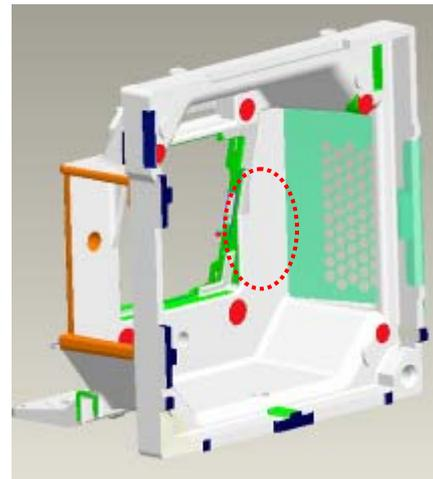
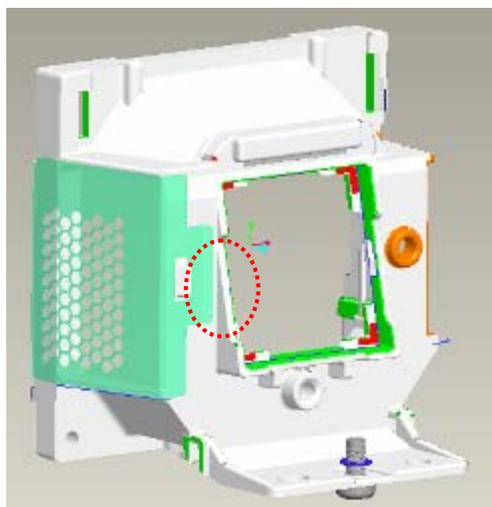

Fig. 1-2
Fig. 1-3
- II. Assemble “MESH” with Lamp holder .Mesh hooks HLD Lamp first (Figure1-2) and press it assemble to the right position (Figure1-3).